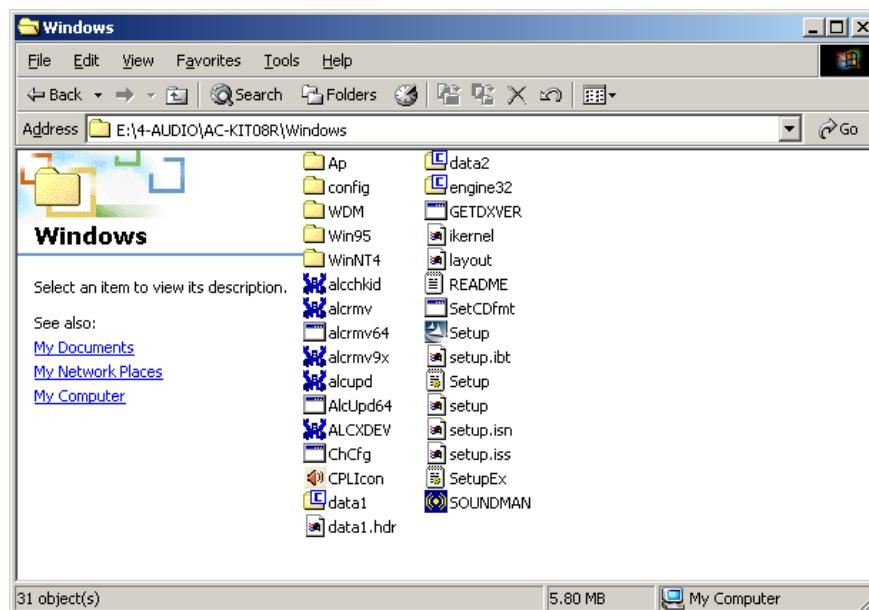

Figure 7-27: CD 4-AUDIO\AC-KIT08R\Windows Folder
Step 2: From the main driver menu, navigate to **X:\4-AUDIO\AC-KIT08R\Windows** (or other appropriate OS). **X:** represents the system CD drive. A new window appears showing the folder contents (**Figure 7-27**).